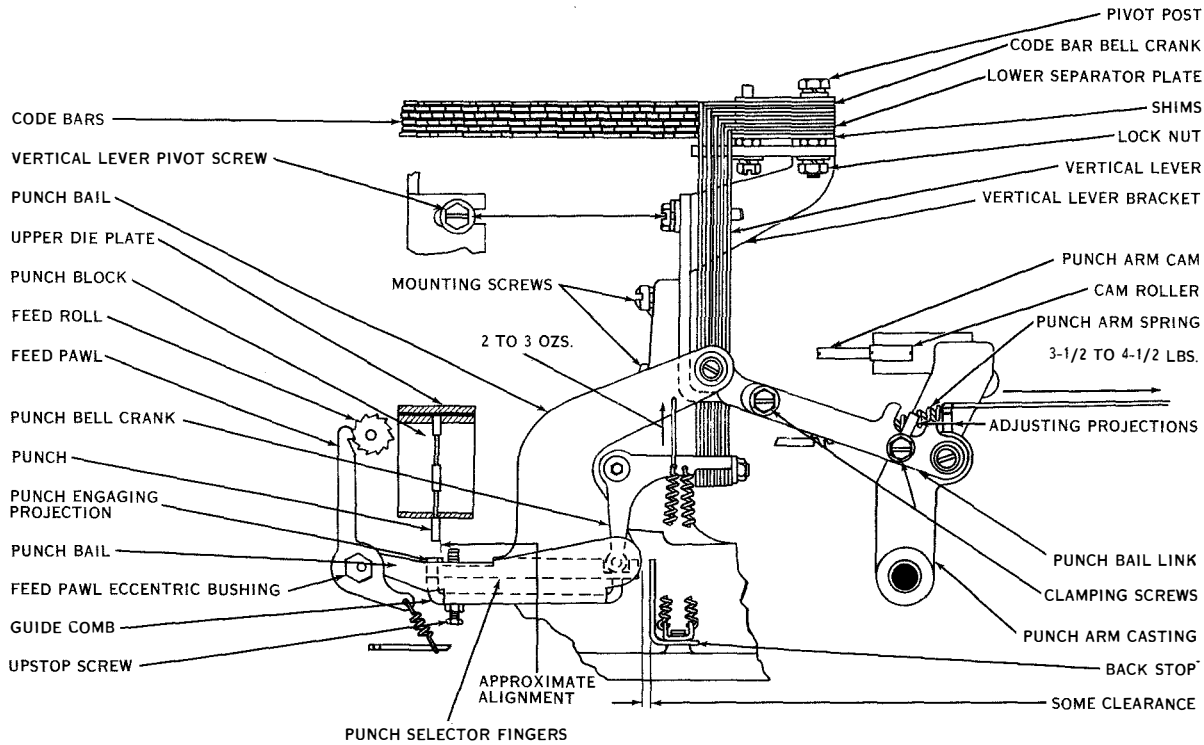

Figure 7-58. Feed Pawl Eccentric, Vertical Lever Pivot Screw, Punch Arm, and Punch Bell Crank Spring Tensions
(57) **FEED PAWL ECCENTRIC (PRELIMINARY).** (See figure 7-58.)—When the punch arm cam roller is on the low part of its cam, the feed pawl should rest in the bottom of the first notch below the horizontal center line of the feed roll. To adjust, position the feed pawl eccentric, locating the eccentric with the high part toward the left.
(59) **CODE BAR BELL CRANKS.** (See figures 7-58 and 7-59.)—The code bars should move freely between the code bar bell crank separator plates. To adjust, make certain the vertical bracket is mounted in a vertical position, then add or remove shims between the lower separator plate and the shoulder on the pivot post. Position the code bars for BLANK selection and rotate the main shaft until the right ends of the code bars and the edges of the code bar bell cranks are at a point of closest approach. The clearance at this point should be 0.010 to 0.050 inch. To adjust, loosen the pivot post lock nut and position the pivot post in the elongated mounting hole. Hold the post in position and tighten the lock nut.
(61) VERTICAL LEVER PIVOT SCREW. (See figure 7-58.)—The right edges of the punch engaging projections on the punch selector fingers should be in approximate alignment with the right edges of the punches. To check, position the code bars to the right (LETTERS combination) and turn the main shaft until
(62) PUNCH SELECTOR FINGER BACKSTOP. (See figure 7-58.)—The left ends of the punch selector fingers should engage the guide comb in the left end of the punch bail by not less than one half the thickness of the comb. To check, hold the selector fingers to the right against the backstop. There should be some clearance between the punch selector fingers and backstop. To check, turn the main shaft until the main bail is in its lowest position and then note the clearance. To adjust, position the punch selector finger backstop. Hold the backstop in position and tighten the mounting screws.
(63) PUNCH BAIL LINK. (See figure 7-58.)—Back off the main bail spring adjusting screw until the spring tension on the main bail is at a minimum (see figure 7-25).
(64) PUNCH BAIL UPSTOP SCREW. (See figure 7-58.)—With the BLANK combination selected and the punch arm cam roller on the highest part of its cam, advance the upstop screw until an unperforated tape can be inserted in the punch block. Back off the upstop screw until the tape is just held friction tight between the feed hole punch and upper die plate. Back off the upstop screw an additional one-quarter turn and tighten the lock nut. Operate the unit under power with the LETTERS combination selected and determine whether or not the feed holes are cut cleanly. A clean cut hole should have a well defined hinged lid with no fibrous edges and with no appreciable tear at the hinged portion of the feed hole lid. A slight tear is permissible at the hinged portion of the code perforations. If the feed holes are not cleanly punched, a refinement of the punch bail link adjustment and punch bail upstop screw adjustment may be necessary.
(77) PUNCH ARM SPRING TENSION. (See figure 7-58.)—A tension of from $3\frac{1}{2}$ to $4\frac{1}{2}$ pounds should be required to start the punch arm cam roller moving away from its cam. To check, turn the main shaft until the punch arm cam roller is on the low part of its cam and hook a 12-pound scale over the punch arm spring post and pull in line with the spring. Note the tension as the roller starts to move away from its cam.
(78) PUNCH BELL CRANK SPRING TENSION. (See figure 7-58.)—A tension of two to three ounces should be required to start each bell crank moving. To check, position the main bail roller on the high parts of its cam and remove the tape guide. Hook an eight-ounce scale under the horizontal arm of the punch bell crank at the spring and pull vertically upward. Note the tension as the bell crank starts to move.